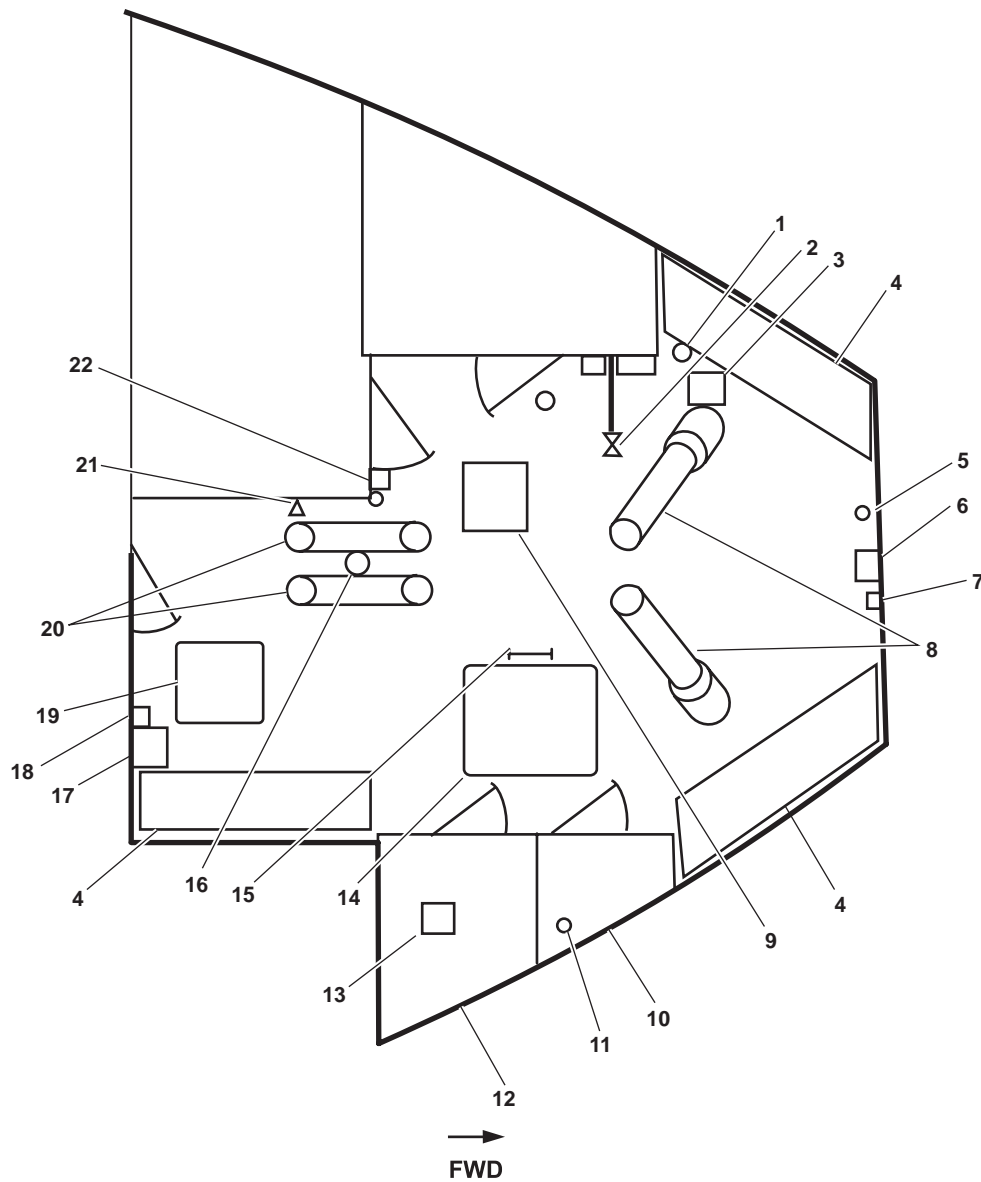

Figure 7. Boatswain's Store
1. Fire extinguisher (figure 7, item 1). The fire extinguisher is used to extinguish small fires on the main deck level.
2. Arms locker sprinkler cutoff valve (figure 7, item 2). The sprinkler cutoff valve controls the supply of raw water to the arms locker drench system sprinkler heads.
3. Arms locker exhaust fan E01-62-2 (figure 7, item 3). The arms locker exhaust fan ventilates the arms locker.
4. Shelves (figure 7, item 4). The shelves provide storage space.
5. General alarm bell (figure 7, item 5). The alarm bell signals various emergency conditions on the vessel.
6. Public Address (PA) speaker volume control (figure 7, item 6). The PA speaker volume control adjusts the volume level of the PA speaker.
7. PA Speaker (figure 7, item 7). The PA speaker amplifies messages throughout the vessel.
8. Hawse pipes (figure 7, item 8). The hawse pipes guide the anchor chains from the anchor windlass to the anchor pocket.
9. Boatswain's store, arms locker, and laundry supply fan (S01-58-1) (figure 7, item 9). This supply fan provides ventilation to the boatswain's store, arms locker, and laundry.
10. Cleaning gear locker (with shelves) (figure 7, item 10). The cleaning gear locker provides storage for cleaning supplies.
11. Remote valve operator. BB-12 (figure 7, item 11). The remote valve operator is a reach rod for operation of BB12, BLST TK 1 SUCT COV.
12. Linen locker (with shelves) (figure 7, item 12). The linen locker provides storage for clean linen.
13. Preheater 1-57-1 thermostat (figure 7, item 13). The thermostat turns the preheater ON and OFF.
14. Hatch (figure 7, item 14). The hatch provides exit to 01 level forward weather deck above.
15. Vertical ladder (figure 7, item 16). The vertical ladder provides access to 01 level forward weather deck.
16. Hydraulic motor and disc brake (figure 7, item 17). The hydraulic motor and disc brake is required to operate the anchor windlass as well as stop the anchor windlass.
17. Boatswain's storeroom supply fan controller and HVAC control (figure 7, item 18). This controller turns the boatswain's storeroom supply fan ON and OFF. The HVAC control turns the HVAC ON and OFF.
18. HVAC system controller for preheater and reheater 1-57-1 (figure 7, item 19). The HVAC system controller for preheater and reheater 1-57-1 provides electrical power to the preheater and reheater.
19. Hatch (figure 7, item 20). This hatch provides access to the bow thruster compartment below.
20. Chain pipes (figure 7, item 21). The chain pipes guide the chain from the anchor windlass to the chain locker.
21. Fire axe (figure 7, item 15). The fire axe is used to aid the crew in gaining immediate access to a locked or enclosed area in the case of fire.
22. Arms locker exhaust fan controller (figure 7, item 22). This controller controls power to the arms locker exhaust fan.